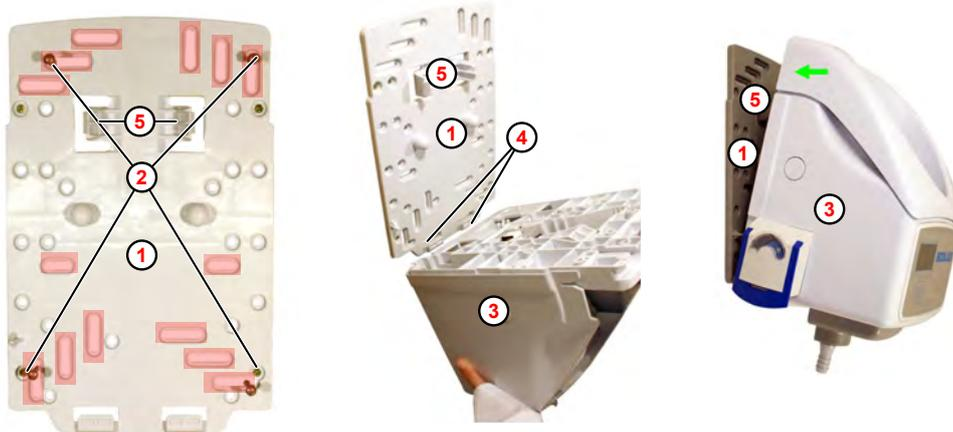

Fig. 3: Wall mounting (example with EcoPlus S)
1. ➤ Mark the desired drill holes ② at the mounting position using the wall bracket (Fig. 3 , ①).
3. ➤ Fix the wall bracket ① to the wall using suitable attachment parts.
4. ➤ Place the EcoPlus S ③ in the hooks ④ of the wall bracket ① from above.
5. ➤ Swivel the EcoPlus S ③ onto the wall bracket ① and press it backwards until it audibly engages.